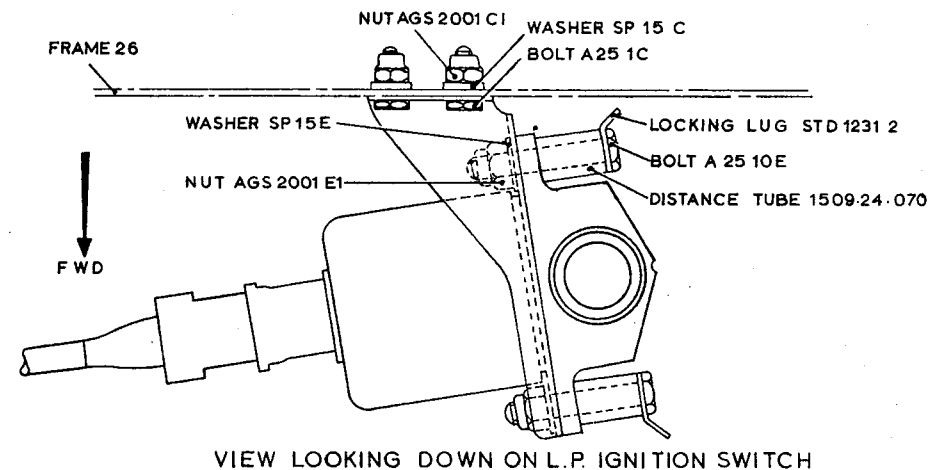

Fig.5 L.p. ignition switch installation
(2) Remove the dust caps from the inlet and outlet connections, then suitably blank the outlet connection and connect the inlet to a low pressure air supply.
(3) With no air pressure applied check for continuity between pins A and B.
(4) Apply an air pressure of 70 lbf/in2, then release the pressure.
(5) Repeat (4) four times.
(6) Apply a gradually increasing air pressure and check that the circuit is broken between pins A and B and made between pins A and C, at between 40 and 45 lbf/in2.
(7) Decrease the pressure to 20 lbf/in2, check that continuity is restored between pins A and B, then release the pressure and remove the test equipment.
(8) Fit the switch to the mounting bracket as shown on fig.5.
(9) Re-connect fuel pipes, tighten and wire-lock connections with stainless steel locking wire.
(10) Re-connect electrical cable.
(11) Prime the system as detailed in para. 9.